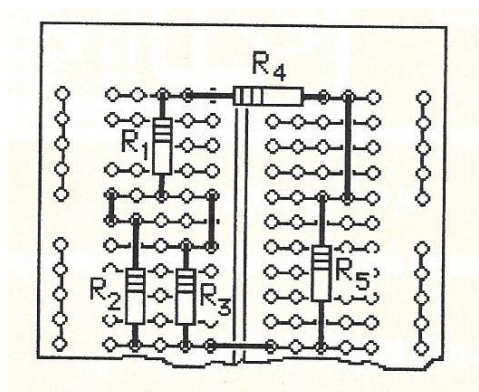

Figure 1
2. Connect the components as shown in Figure 1. *Do not connect any battery or power supply at this time*